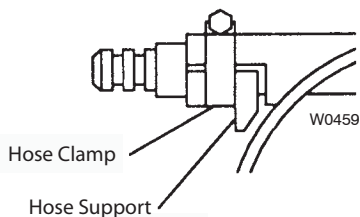

Figure 5
5. See Figure 5. Loosen hose clamp bolts. Remove hose supports and clamps that secure both ends of hose.